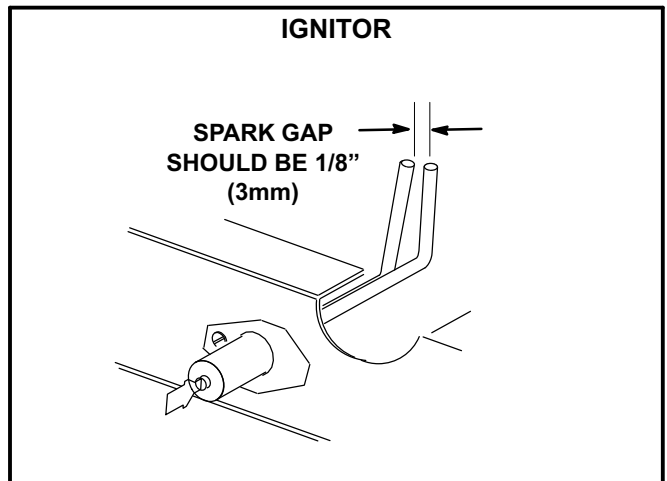

FIGURE 27
- 5- Locate the ignitor under the right burner. Check ignitor spark gap with appropriately sized twist drills or feeler gauges. See figure 27.